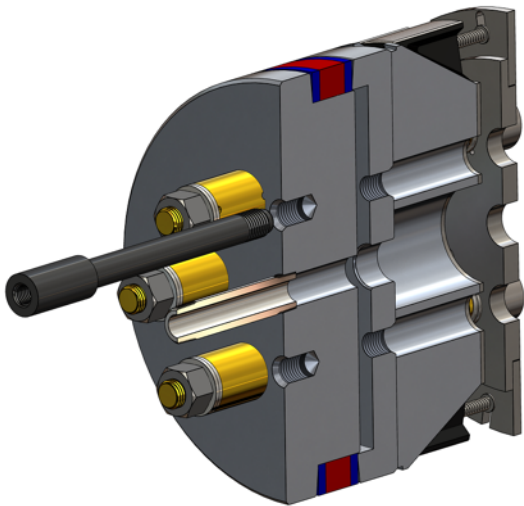

Figure 11: Inserting and Threading Lifting Standoffs into the Plug
- 9.1 Insert the **Lifting Standoffs(26)**, into the two holes located on the face of the **Bottom Compression Plates(12)**. Hand tight both **Lifting Standoffs(26)** until they bottom out, see Figure 11.